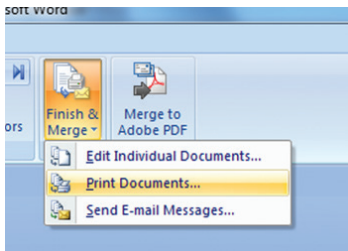

FIGURE 17 Click Print Documents from the Finish & Merge drop-down menu to start the process of printing sequenced labels.
- O. Click the **Finish & Merge** button, then click **Print Documents** from the drop-down menu that appears (Fig 17).